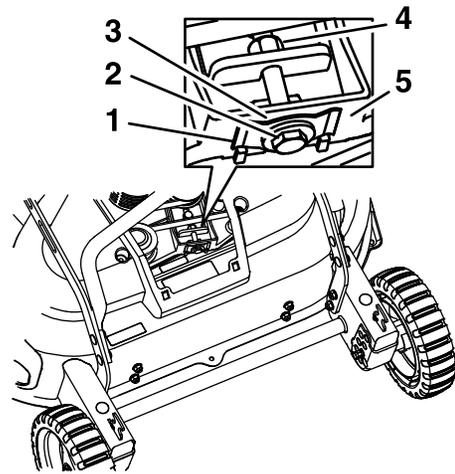

Figure 27
5. Loosen the blade drive adjusting bolt (refer to Figure 27).